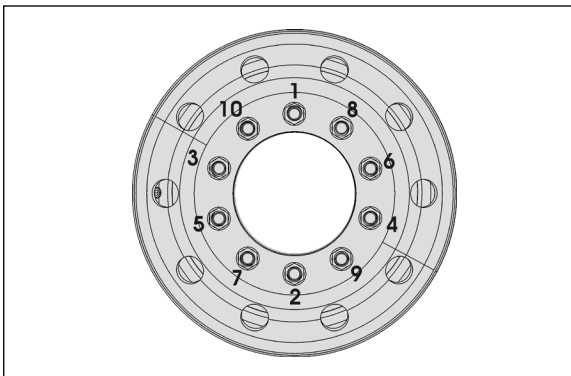

FIGURE 21: TIGHTENING SEQUENCE
11. Tighten stud nuts progressively as shown in FIGURE 21.